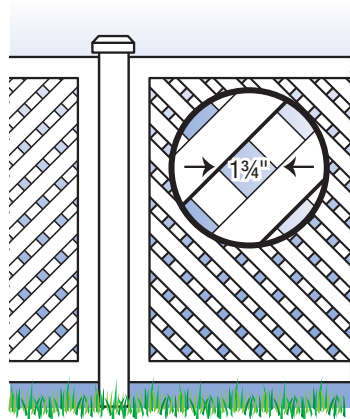

Figure 7
9. Where the barrier is composed of **diagonal members**, such as a lattice fence, the maximum opening formed by the diagonal members should be no more than 1¾ inches (figure 7).